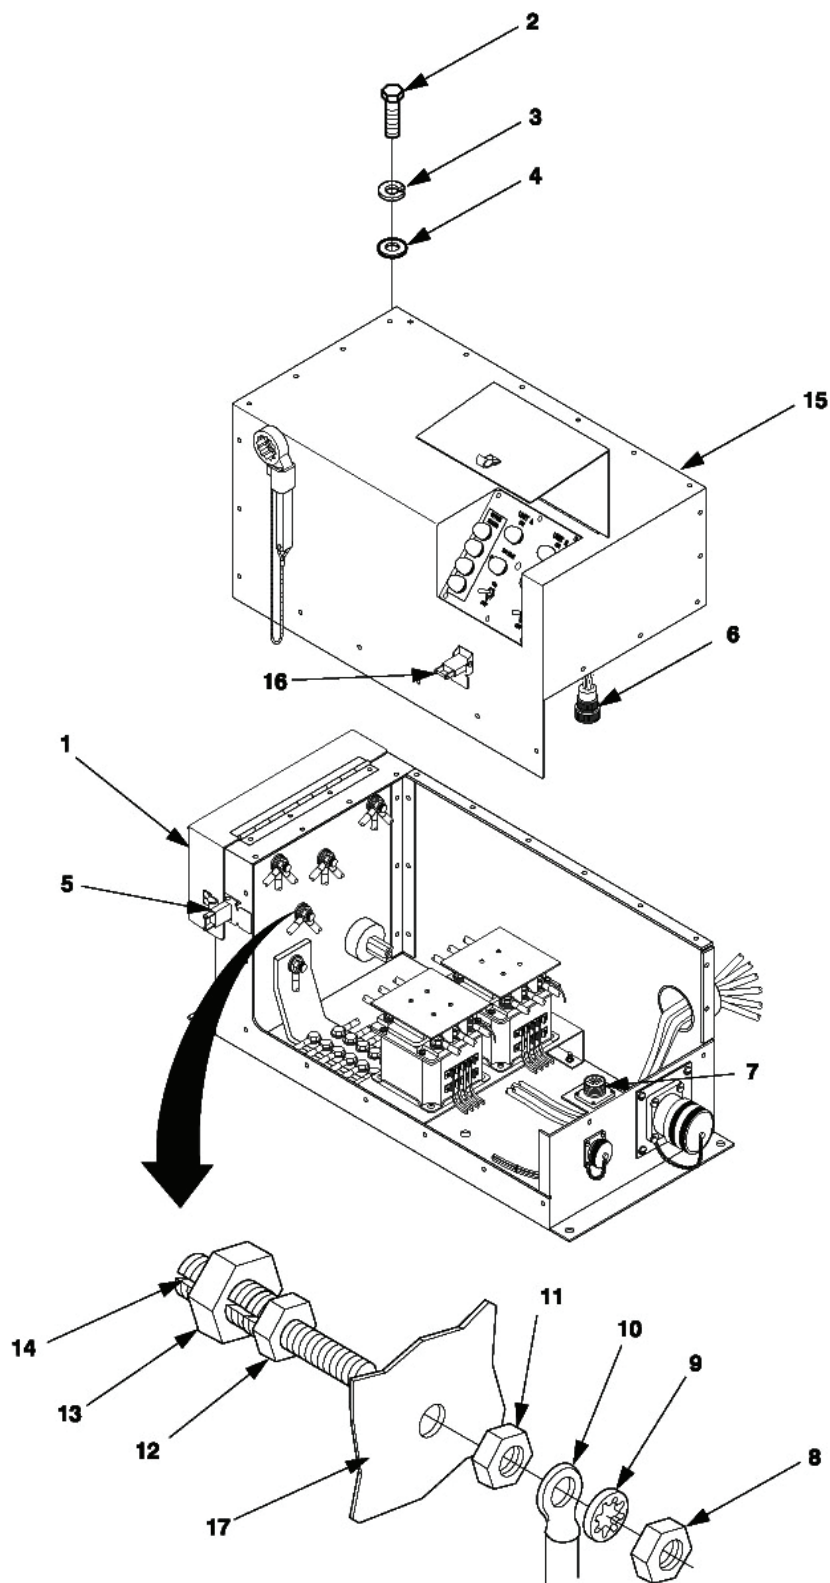
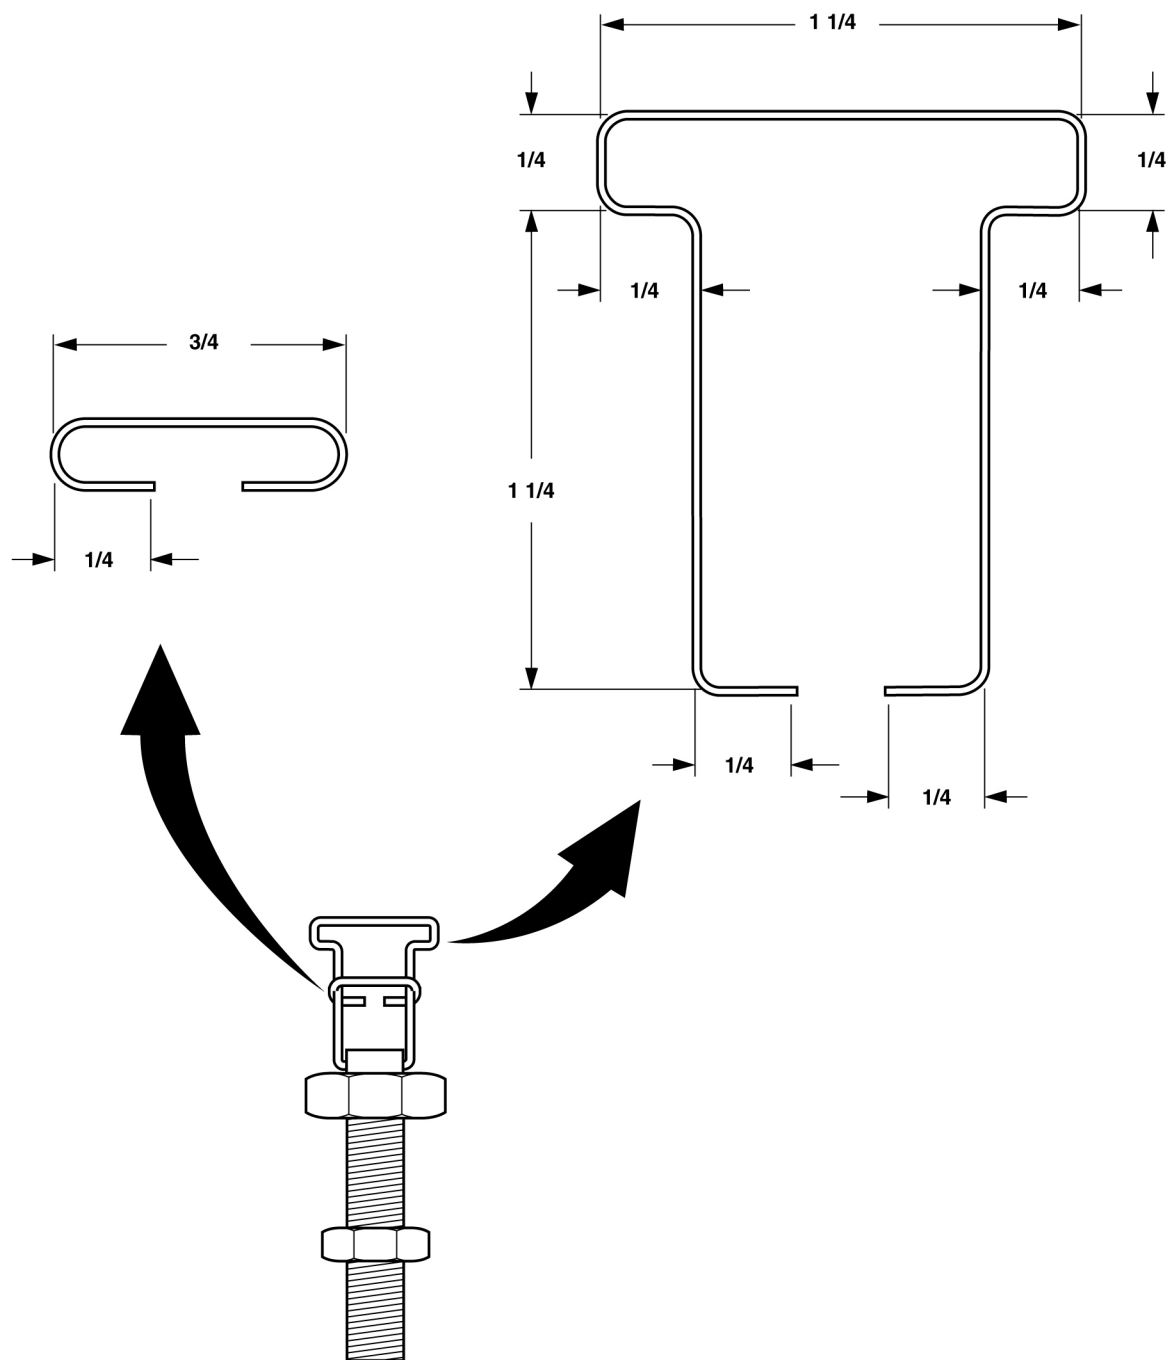

Figure 4-15. Switch Box Load Terminal Maintenance (A Model)
Figure 4-16. Switch Box Load Terminal Repair (A, B, & C Models)
1. Release clamping catch (5, figure 4-15) and open load terminal door (1).
2. Remove cap screws (2), lock washers (3), and flat washers (4). Discard lock washers (3).
3. Make sure nut (13) is installed on load terminal (14).
4. Fabricate and install terminal clip in accordance with figure 4-16.
5. Close load terminal door (1, figure 4-15) and secure with clamping catch (5).
1. Release clamping catch (3) and open load terminal door (1).
3. Make sure nut (8) is installed on terminal load (9).